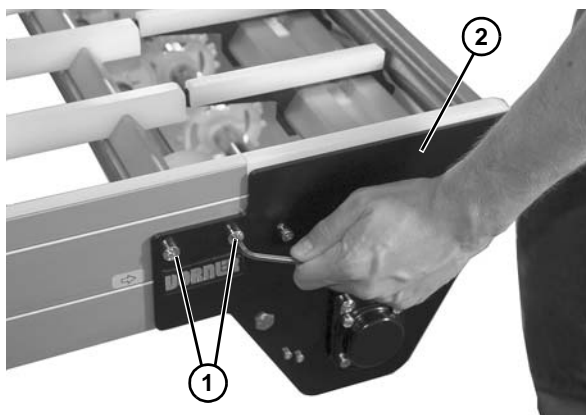

Figure 51
- Remove two socket head bolts (**Figure 51, item 1**) on each side of drive tail assembly (**Figure 51, item 2**).